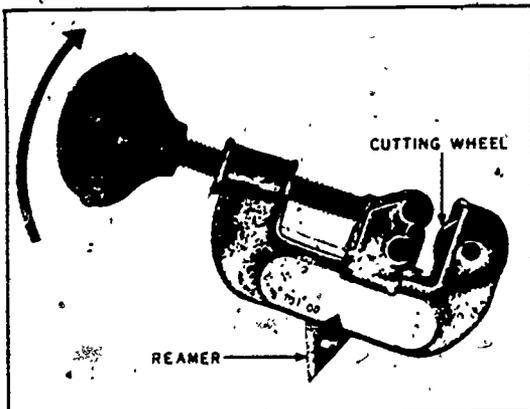

Figure 3-34. Tube cutter.
*Tube cutter.* A tube cutter, like the one shown in figure 3-34, is used to cut small sizes of copper tubing and copper pipe. The tool is designed with a frame, handle, rollers, and a cutting wheel. When pipe is to be cut, insert it between the rollers and cutter and apply sufficient pressure to the handle to force the cutting wheel into the pipe. Then rotate the complete cutter around the pipe. A triangular shaped reamer is built on the frame of the cutter. It is used to ream the bur from the inside edge of the tubing.